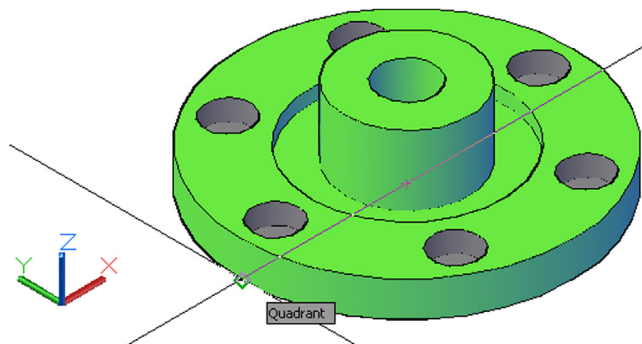

FIGURE 27.3
Step 3. We use the planes as a slicer. If your UCS is in the standard (World) configuration (as seen in Figure 27.3), then select ZX as the plane.
Step 4. Here, you just need to pick a point where you want the plane to start. It is infinite in both planar directions, so you are just locating an anchor point. Using OSNAPs, select the lower left quadrant (also seen in Figure 27.3).